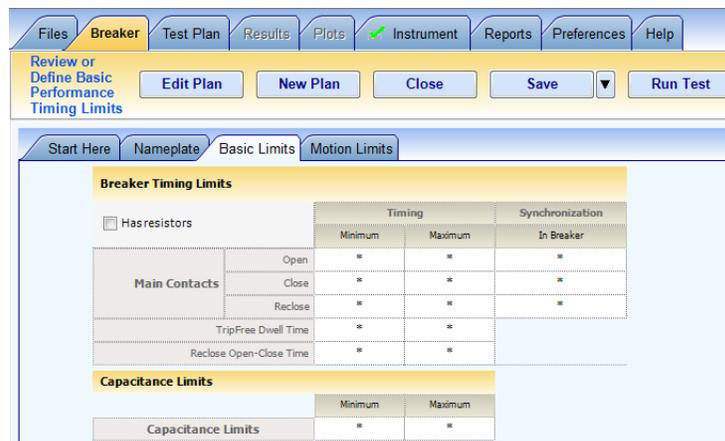

Figure 17 OCB Parameters on the Basic Limits Tab
- Basic Limits tab of the Breaker page (Figure 17). See page 101 for configuration.